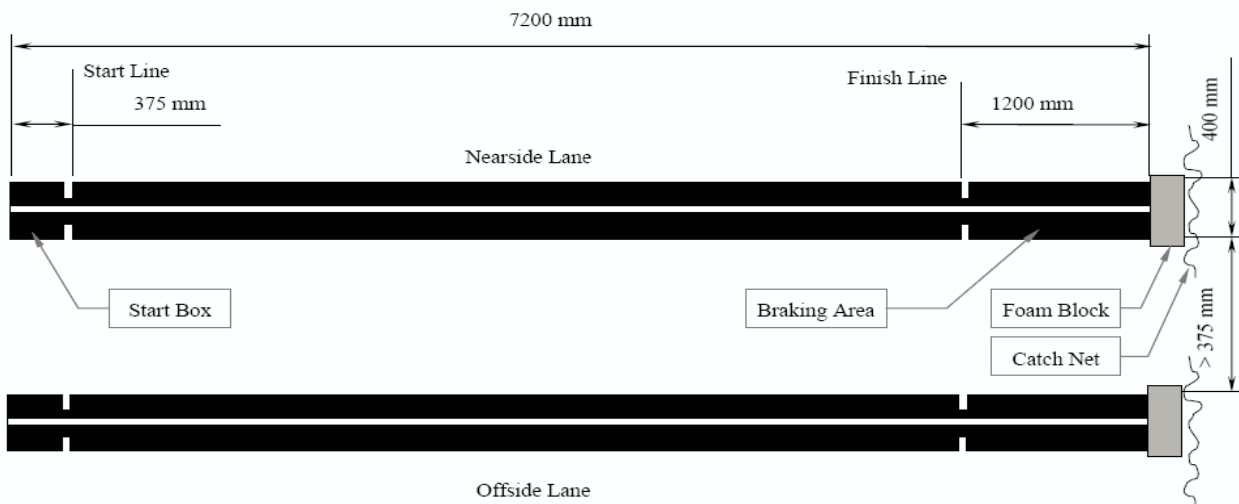

Figure 6. The Drag RaceTrack
- 3.2.5 The start and finish lines will be 40mm from the edge of the centre line, and will be 80 mm in length (as for the line-follower track), on both sides as indicated in Fig. 6.